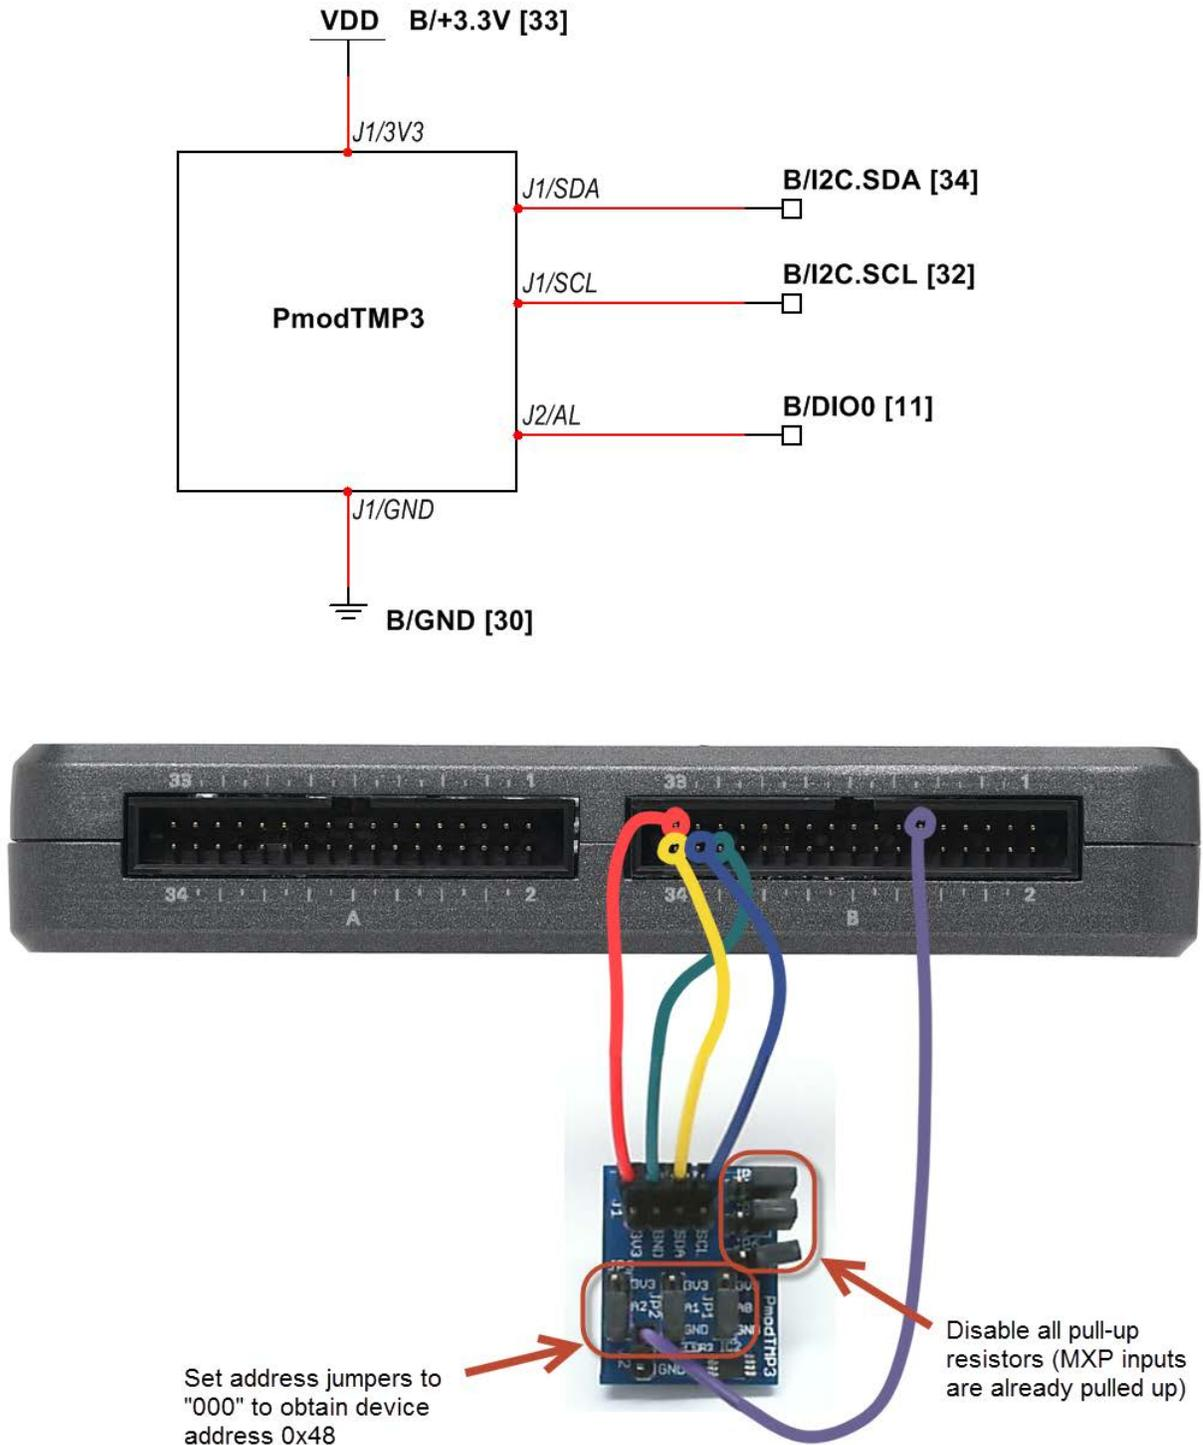

Figure 33.2: Demonstration setup for temperature sensor connected to NI myRIO MXP Connector B. Set *all* jumpers exactly as shown.
- Correct PmodTMP3 address jumper settings — refer again to the circled region of Figure 33.2 on the next page for the proper settings.